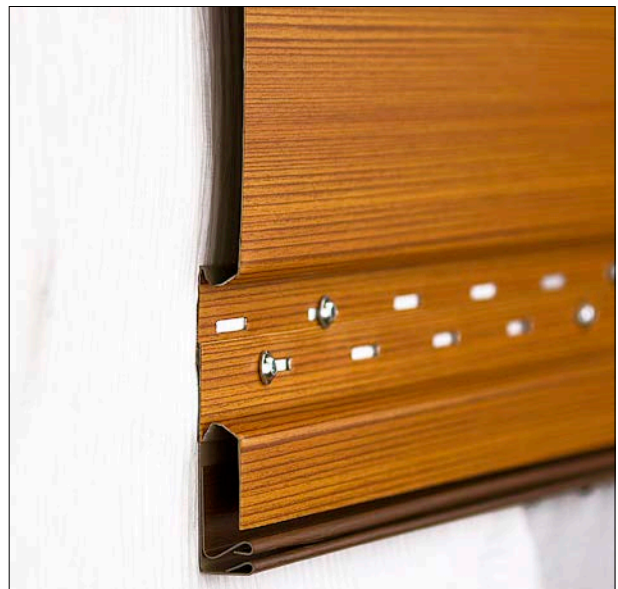

Fig.29
Step 4: Use the off-cut as an inside support for the trimmed panel (Fig.29).